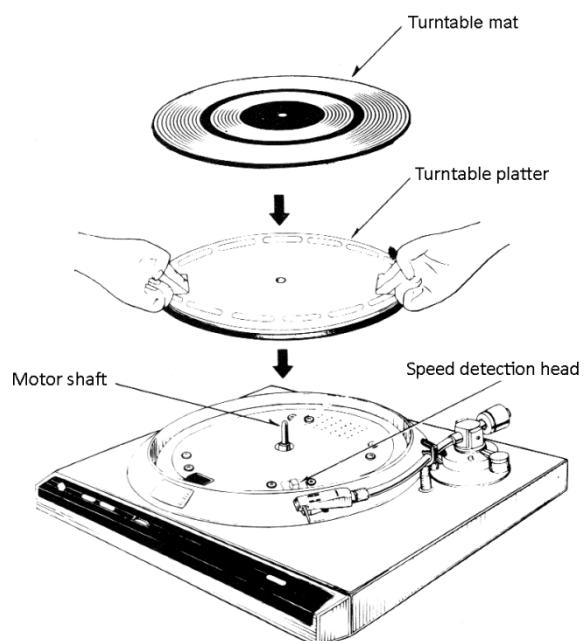

Fig. 1 Mounting turntable platter
- (1) Insert your fingers into the two holes of the turntable platter as shown in Fig. 1 and slowly mount on the motor shaft. For removing the turntable platter pull it up in the same way.